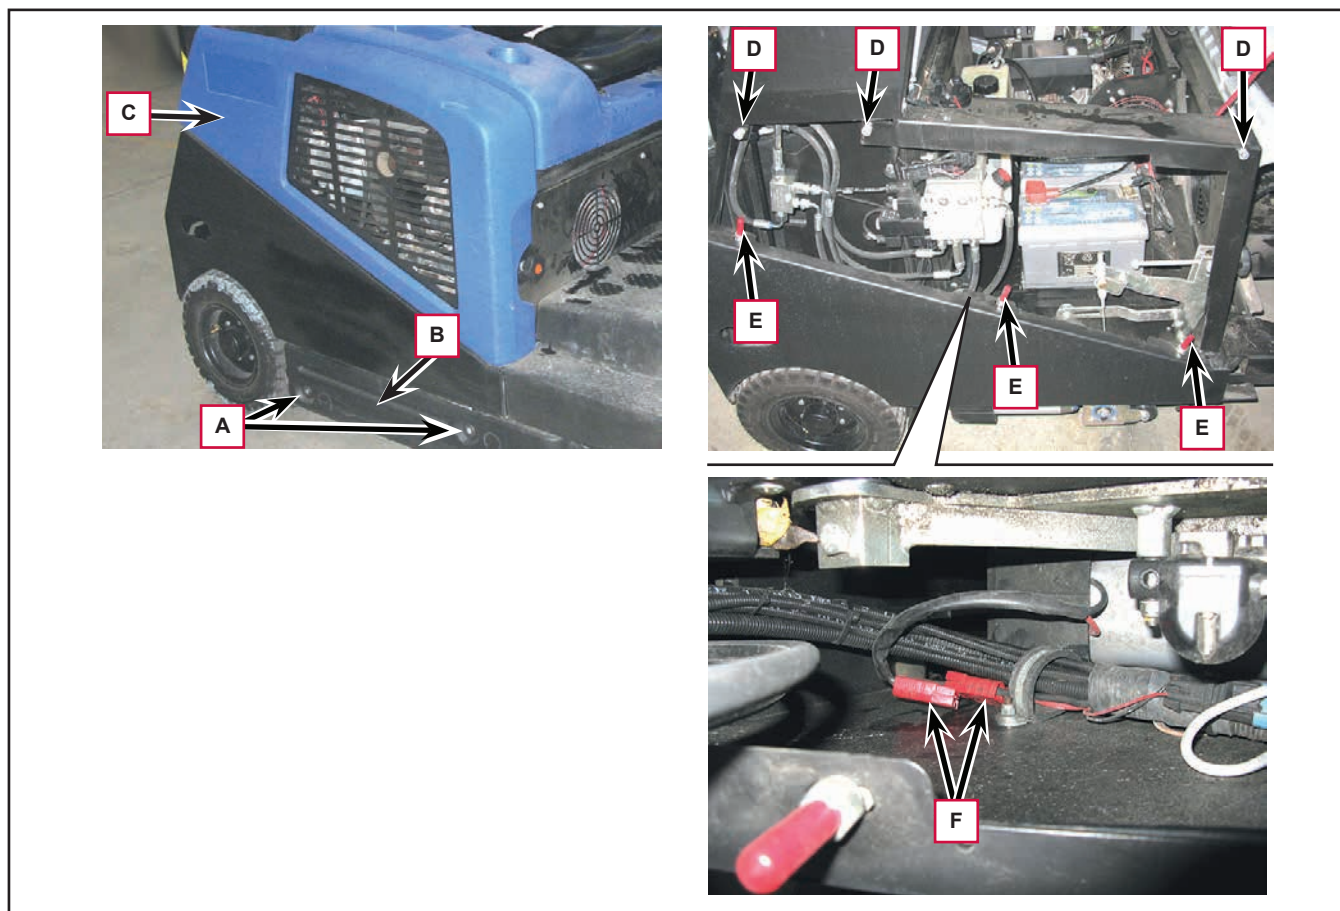

Figure 16
7. Unscrew the screws (A, Figure 16) and remove the right door (B).
8. Lift and remove the right side panel (C), disengaging it from the upper (D) and lower (E) fasteners.
9. Disconnect the main broom motor electrical connection (F).